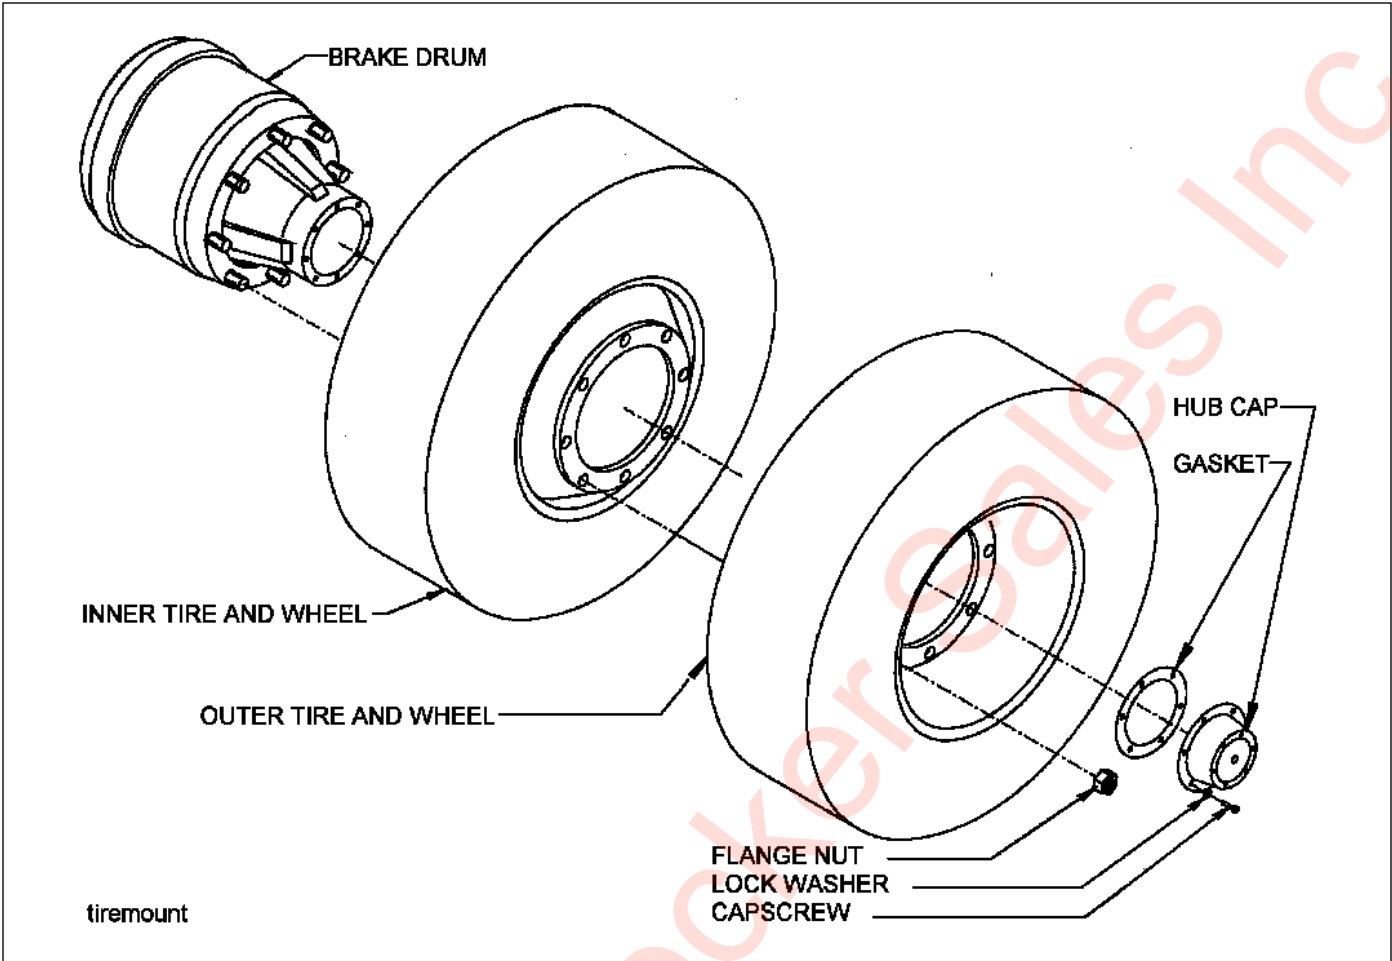

Figure 4-16: Mounting Tires and Wheels
6. For aluminum wheels, often a separator plate is used (See Figure 4-16.) The separator plate is approximately .040" thick. It is placed between the drum and the wheel, or between two wheels in dual applications. The separator plate is recommended in severe applications where corrosion and/or wear have been identified. Aluminum wheels benefit from use of the separator plate. Care must be exercised in centering the separator plate prior to torquing, and stud length must be checked as each plate is approximately .040" thick.
1. Make sure that all mounting surfaces are clean and free of rust, dirt or paint. A wire brush may be used to clean these surfaces **(See Figure 4-16.)**